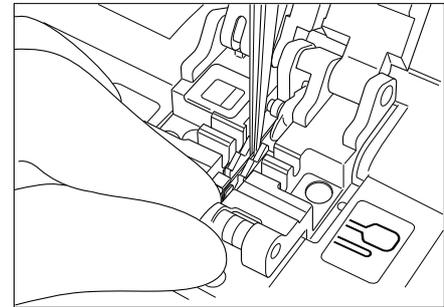

Figure 27
4. In the case that the display indicates “WAFER JAM REMOVE WAFER” push the right clamp to the right to secure a clearance between the clamps. While pushing the right clamp to the right, remove the wafer between the clamps using tweezers or needle nose pliers (See Figure 27).